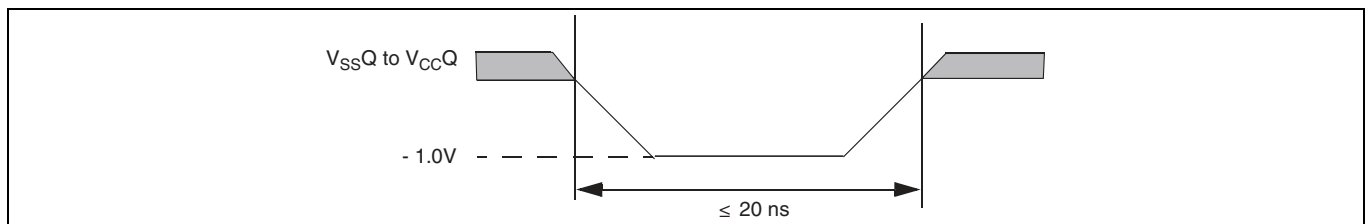
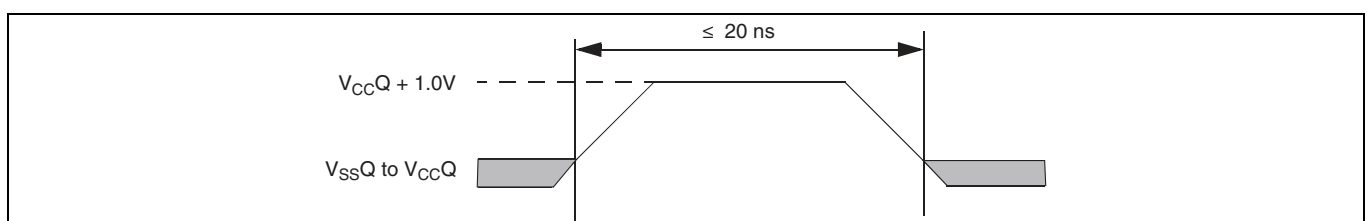

Figure 21 Maximum negative overshoot waveform
Figure 22 Maximum positive overshoot waveform
89. Minimum DC voltage on input or I/O signal is -1.0 V. During voltage transitions, input or I/O signals may undershoot V_{SS} to -1.0 V for periods of up to 20 ns. See Figure 21. Maximum DC voltage on input or I/O signals is V_{CC} + 1.0 V. During voltage transitions, input or I/O signals may overshoot to V_{CC} + 1.0 V for periods up to 20 ns. See Figure 22.